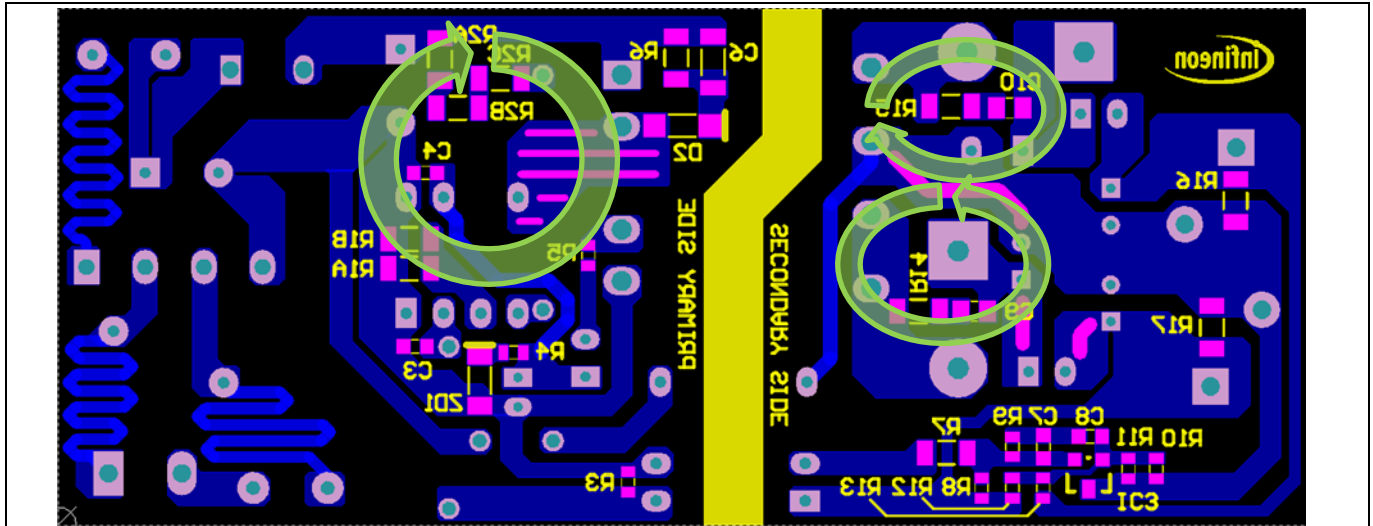

Figure 5 PCB layout tips
- The switching power loop needs to be as small as possible (see Figure 5). There are three power loops in the reference design; one on the primary side and two on the secondary side. The primary-side loop starts from the bulk capacitor (C2) positive terminal, goes through the primary transformer winding (pin 1 and pin 2 of T1), the DRAIN pin and CS pin of the CoolSET™ IC1, CS resistors R1A and R1B and back to the C2 negative terminal. The secondary-side loop starts at the 12 V output secondary transformer winding (pin 9 of T1), goes through output diode D3, output capacitor C11 and back to pin 8 of T1. Another loop on the secondary starts from the 5 V output secondary transformer winding (pin 6 and 7 of T1), output diode D4, output capacitor C13 and back to pin 8 of T1.
- Separating the HV components and LV components, e.g. clamping circuit D12, R6 and C6, at the top part of the PCB (see Figure 5) and the other LV components at the lower part of the PCB can reduce the spark-over chance of the high energy surge during ESD or a lightning surge test.